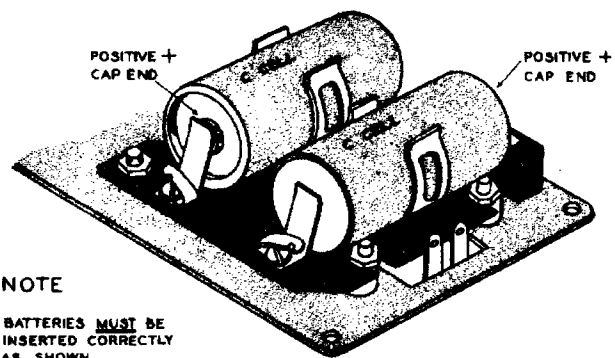

Figure 9
- () Refer to Figure 9 and, noting the position of the battery caps, install the two size "C" batteries by pulling out slightly on the one spring contactor and pushing the battery against the other. Apply only sufficient pressure to allow the battery to slip into place. NOTE: If the contactors are sprung too far out to make contact with the battery, or if the batteries are installed without proper regard to polarity, your Code Oscillator will not operate.